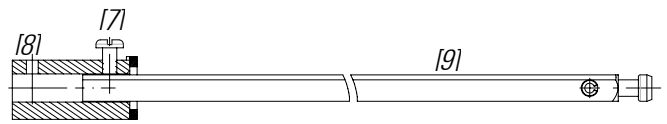

Figure 6. Assemble the shaft and coupler.
- c. Insert the shaft [9] upto 14 mm (35/64" inch) into the coupler [8] and secure it with #8-32 X 1/32" screws [7], as illustrated in Figure 6. Tighten the screws to 16 - 20 in-lb.